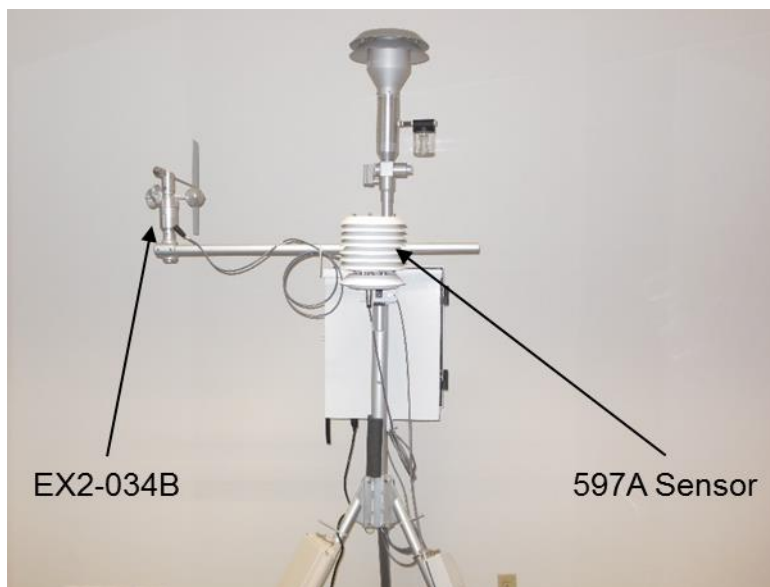

Figure 2-4 Sensor Mounting with an Optional Wind Sensor
5. **Optional Wind Sensor:** If an optional wind speed/direction sensor (such as the EX2-034 or EX2-AIO) is purchased a cross-arm tube to use for mounting the wind sensor will be included. Connect the cross-arm to the post on the back of the tripod with the supplied $\frac{3}{4}$ " x $\frac{3}{4}$ " fitting and set screws and then install the sensor at end of the arm as suggested in Figure 2-4. The wind sensor should be as far from the E-BAM unit as possible, and the wind vane must be able to rotate fully without obstruction. Plug the wind sensor into the corresponding connector on the bottom of the E-BAM. Depending on the type of wind sensor, it may need to be oriented to the south. Consult the separate manual that comes with the wind sensor for details. Verify configuration after power-up as detailed in section 2.7.2.